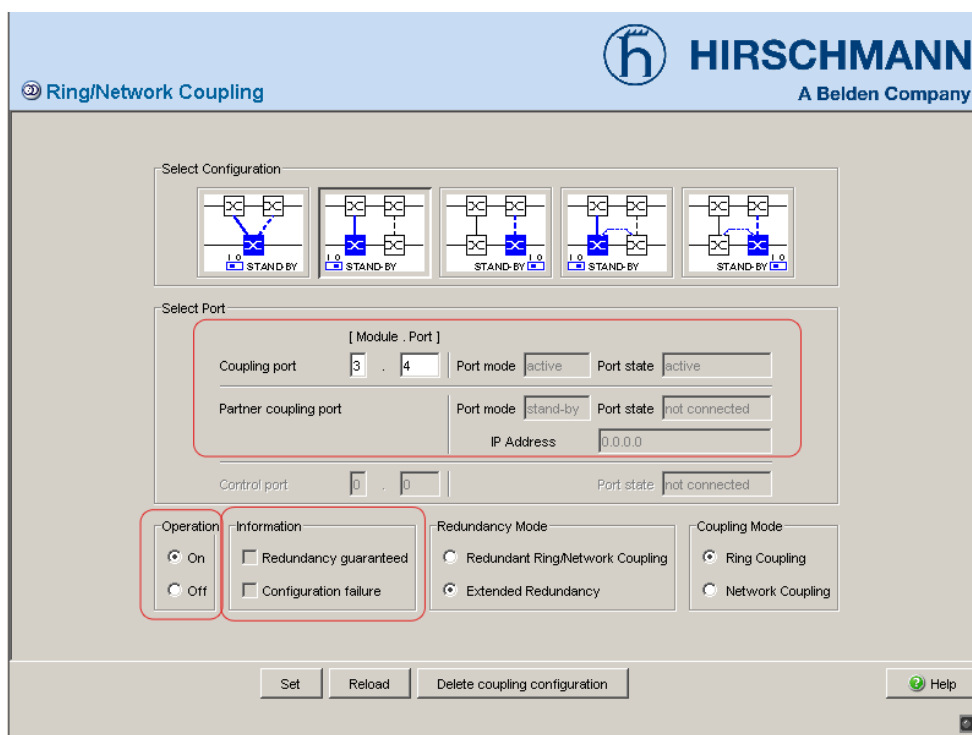

Figure 15: Selecting the port and enabling/disabling operation
☐ Select the coupling port (see fig. 15), (see table 9).
- ☐ Activate the function in the “Operation” frame (see fig. 15).
The displays in the “Select port” frame mean (see fig. 15):
The displays in the “Information” frame mean (see fig. 15):
- ☐ Select the coupling port (see fig. 15), (see table 9).